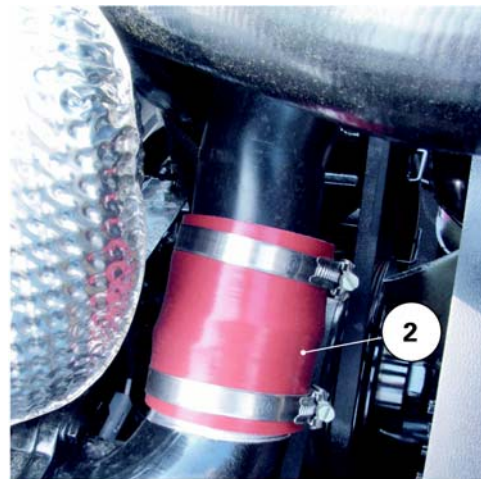

Fig. 5
12. Disconnect the air sleeve (2) (intake on inlet manifold) from the cooling sleeve (Fig. 5).